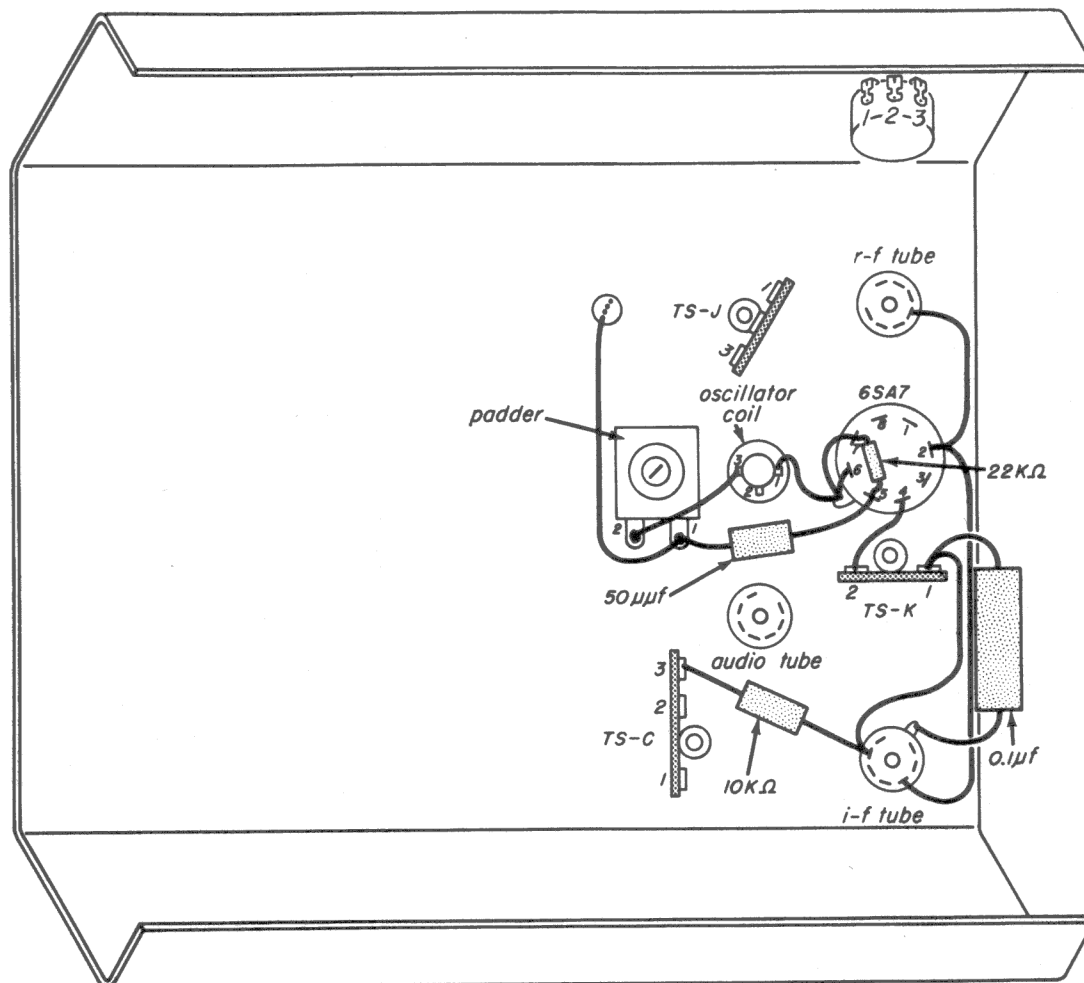
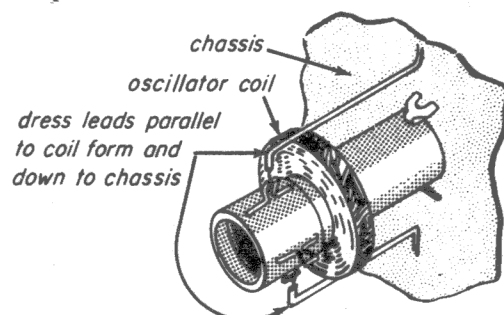

Fig. 30-3
Fig. 30-5
Step 3. Install the 6SA7 octal socket in its hole. Make sure that pins 1 and 8 are towards the front of the chassis as shown in Fig. 30-3. Fasten the socket with No. 6-32 screws and hex nuts.
Step 4. Mount a two-lug terminal strip as shown in Fig. 30-3. This terminal strip will be referred to as TS-K in this lesson.
d. Reinstall the spring clip on the coil form. However, position it so that the little metal projection which is part of one of the flanges lines up with lug 1 (Fig. 30-3) of the coil.
Step 7. Mount the padder capacitor as shown in Fig. 30-3. Make sure the terminals face the rear of the chassis.
Step 8. Now you are ready to wire the oscillator coil into the circuit. Be sure to dress the leads as shown in Fig. 30-5. Position the leads parallel to the coil form and as close to the coil as possible. Run the leads from the terminal lugs of the coil down to the chassis and then to their destination. Do not suspend the leads away from the chassis. The purpose of dressing the leads in this way is to allow for sliding the tickler coil that you have made over the wired oscillator coil. Connect terminal 1 of the oscillator coil to the tube socket ground lug as shown in Fig. 30-3. Connect terminal 3 of the oscillator coil to terminal 2 of the padder capacitor (Fig. 30-3).
of the ganged tuning capacitor. Run the connecting wire through the hole in the chassis (Fig. 30-3) that is located below the stator lug.
b. Connect another lead from pin 2 of the 6SA7 to pin 4 of the 6BA6 r-f tube. Dress these leads into the corner of the chassis as shown in Fig. 30-3.
Step 13. Connect the free end of the lead from pin 6 of the i-f tube (this is a B+ wire) to terminal 1 of TS-K. Connect the 0.1- μf capacitor from terminal 1 of TS-K to chassis (Fig. 30-3). Be sure to ground the foil end of the capacitor.
Step 18. Recheck your wiring to be sure that it conforms to the schematic Fig. 30-2b, and to the pictorial wiring diagram, Fig. 30-3.